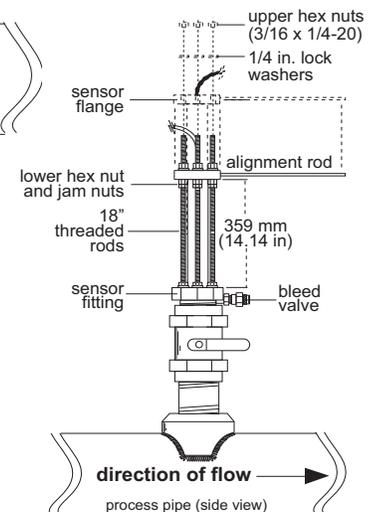

Fig. 9
- Secure the sensor with lock washers and upper hex nuts on the top of the flange. Before tightening, align the sensor flange so that the alignment rod is parallel and level with the process pipe. (Fig. 6 and Fig. 9)